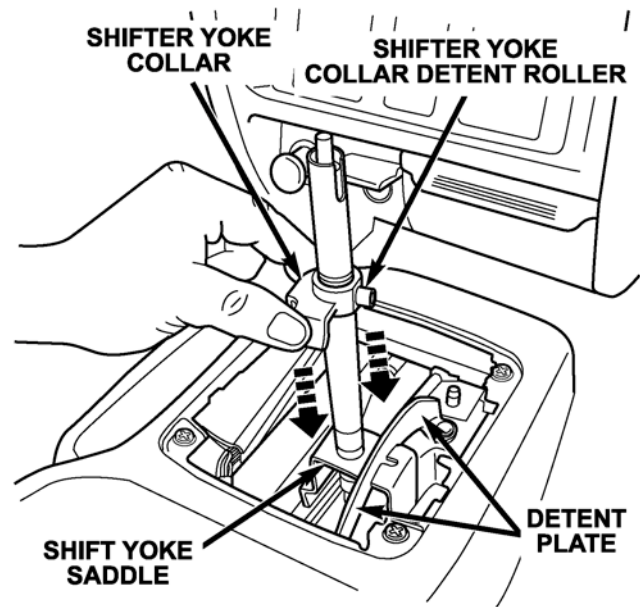

Figure 2
7. Install the shifter yoke collar over the shifter yoke (Figure 2).